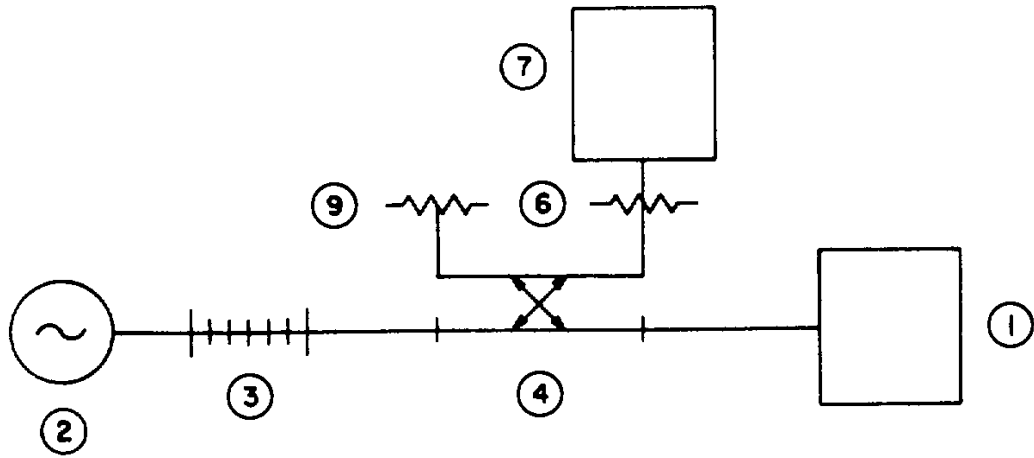

Figure 3b.
1. Adjust the generator (2) to a convenient low frequency and a level sufficient for a stable reading on the Model 42 (7).
2. Adjust the double-stub tuner (3) for a maximum indication on the Model 42 (7).
3. Replace the precision termination (5) with a standard power meter (1). (See Figure 3b.) With generator (2) set at the same frequency as in Step 1, adjust the generator output level for a convenient reading on the standard power meter (1). Record the output reading of the Model 42 (7). Record the indicated reading on the standard power meter (1) as ( $P_{ind_1}$ )